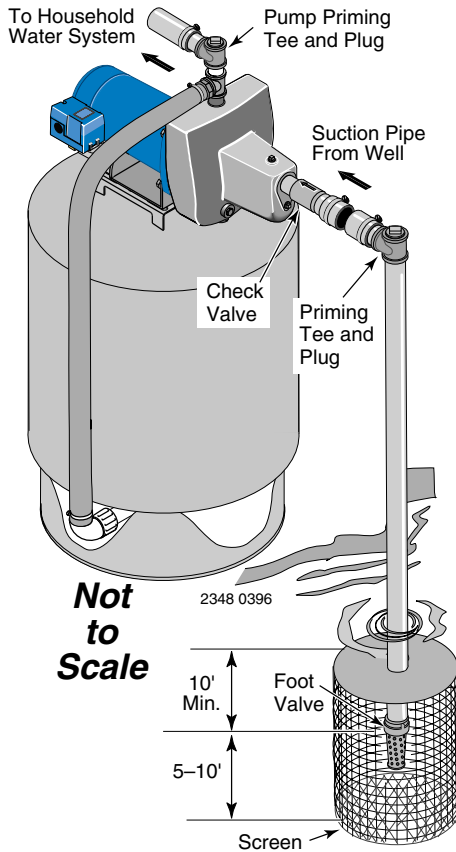

Figure 3: Surface Water Installation
INSTALLATION FOR SURFACE WATER (FIGURE 3)
- Step 2. Assemble a foot valve and suction pipe (see Figure 3). Make sure that the foot valve works freely. Use teflon tape or a teflon-based pipe joint compound on threaded pipe joints. Protect the foot valve assembly from fish, trash, etc, by installing a screen around it (see Figure 3).
- Step 4. Install a priming tee, priming plug, and suction pipe to the pump (see Figure 3). Support the pipe so that there are no dips or sags in the pipe, so it doesn't strain the pump body, and so that it slopes slightly upward from the well to the pump (high spots can cause air pockets which can air lock the pump). Seal the suction pipe joints with teflon tape or a teflon based pipe joint compound. Joints must be air- and water-tight. *If the suction pipe can suck air, the pump cannot pull water from the well.*